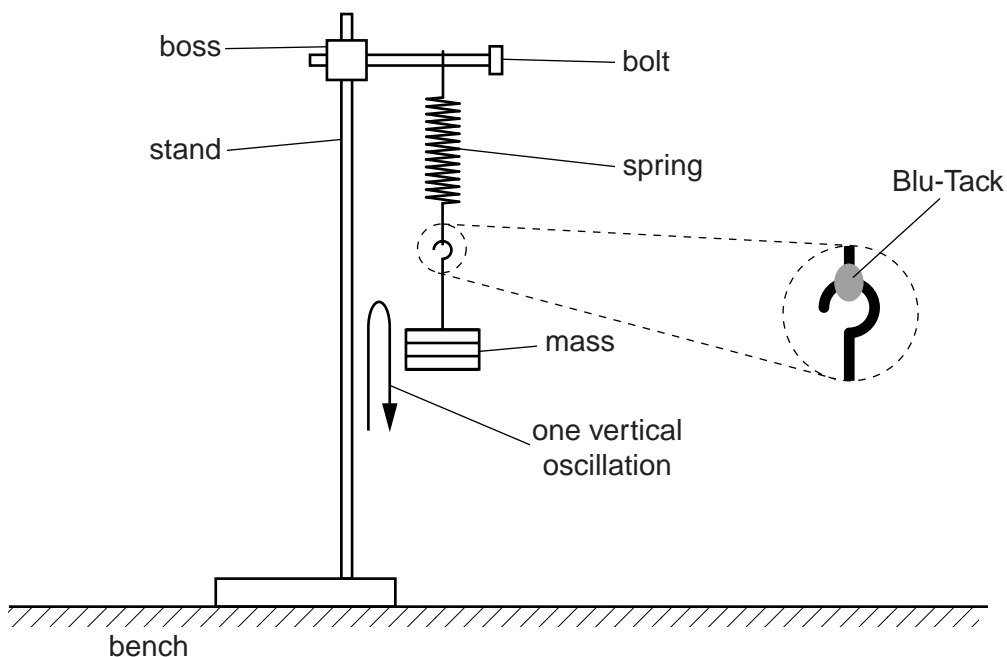

Fig. 2.2
(b) (i) Set up the apparatus as shown in Fig. 2.2 with mass 1 suspended from the spring and secured with Blu-Tack.
- (ii) Pull the mass down approximately 2 cm and release it. One vertical oscillation is shown in Fig. 2.2. Measure and record the time  $t$  for the mass to make 10 vertical oscillations.